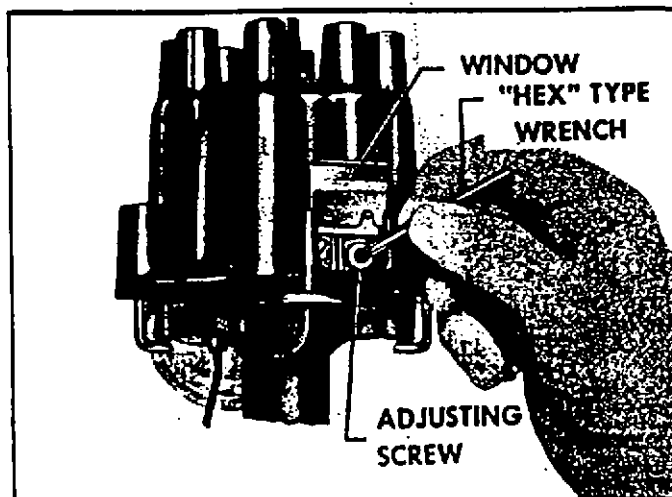

Fig. 14—Setting Point Dwell
- With engine running at idle, raise the adjustment screw window and insert an Allen wrench in the socket of the adjusting screw (fig. 14).